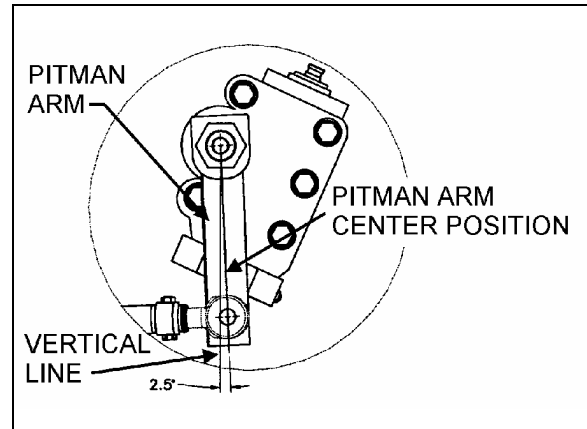

FIGURE 7: PITMAN ARM ALIGNMENT
1. The pitman arm should be adjusted with reference mark aligned or to an angle of 2.5° in relation with the vertical axis (Fig. 7).
2. Install fixing nut. Tighten nut to 405-445 lbf•ft (550-605 N•m) (Fig. 7).